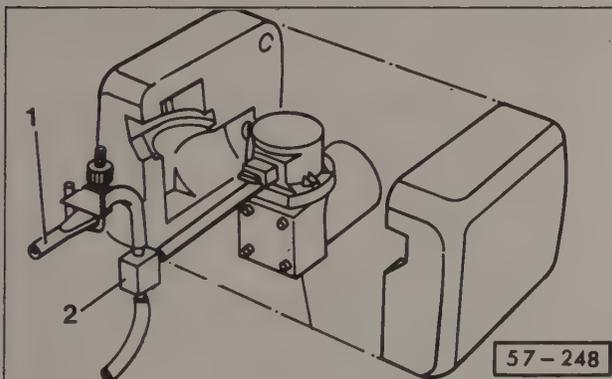

Fig. 5-9. Left rear door activator being tested with hose clamp at 1, near hose distributor 2.
- Clamp the hose as shown in Fig. 5-9. If the pump runs longer than 5 seconds when activated, the left rear door activator or the hose to it is faulty. If the pump turns off within 5 seconds, remove the clamp and continue testing.